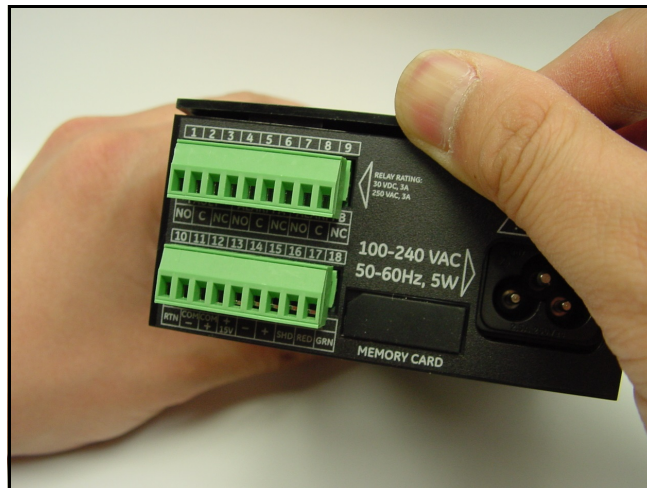
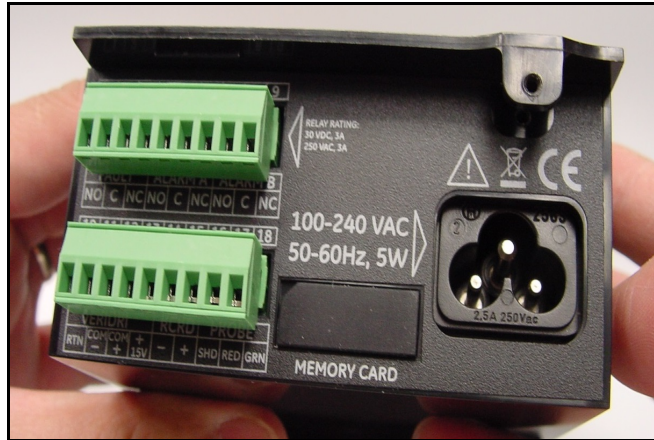

Figure 5: Lifting the Back Edge of the Cover
Figure 6: Sliding the Cover Back
3. Lift the back edge of the cover (see Figure 5), slide the cover back (see Figure 6), and lift it from the enclosure (see Figure 7).